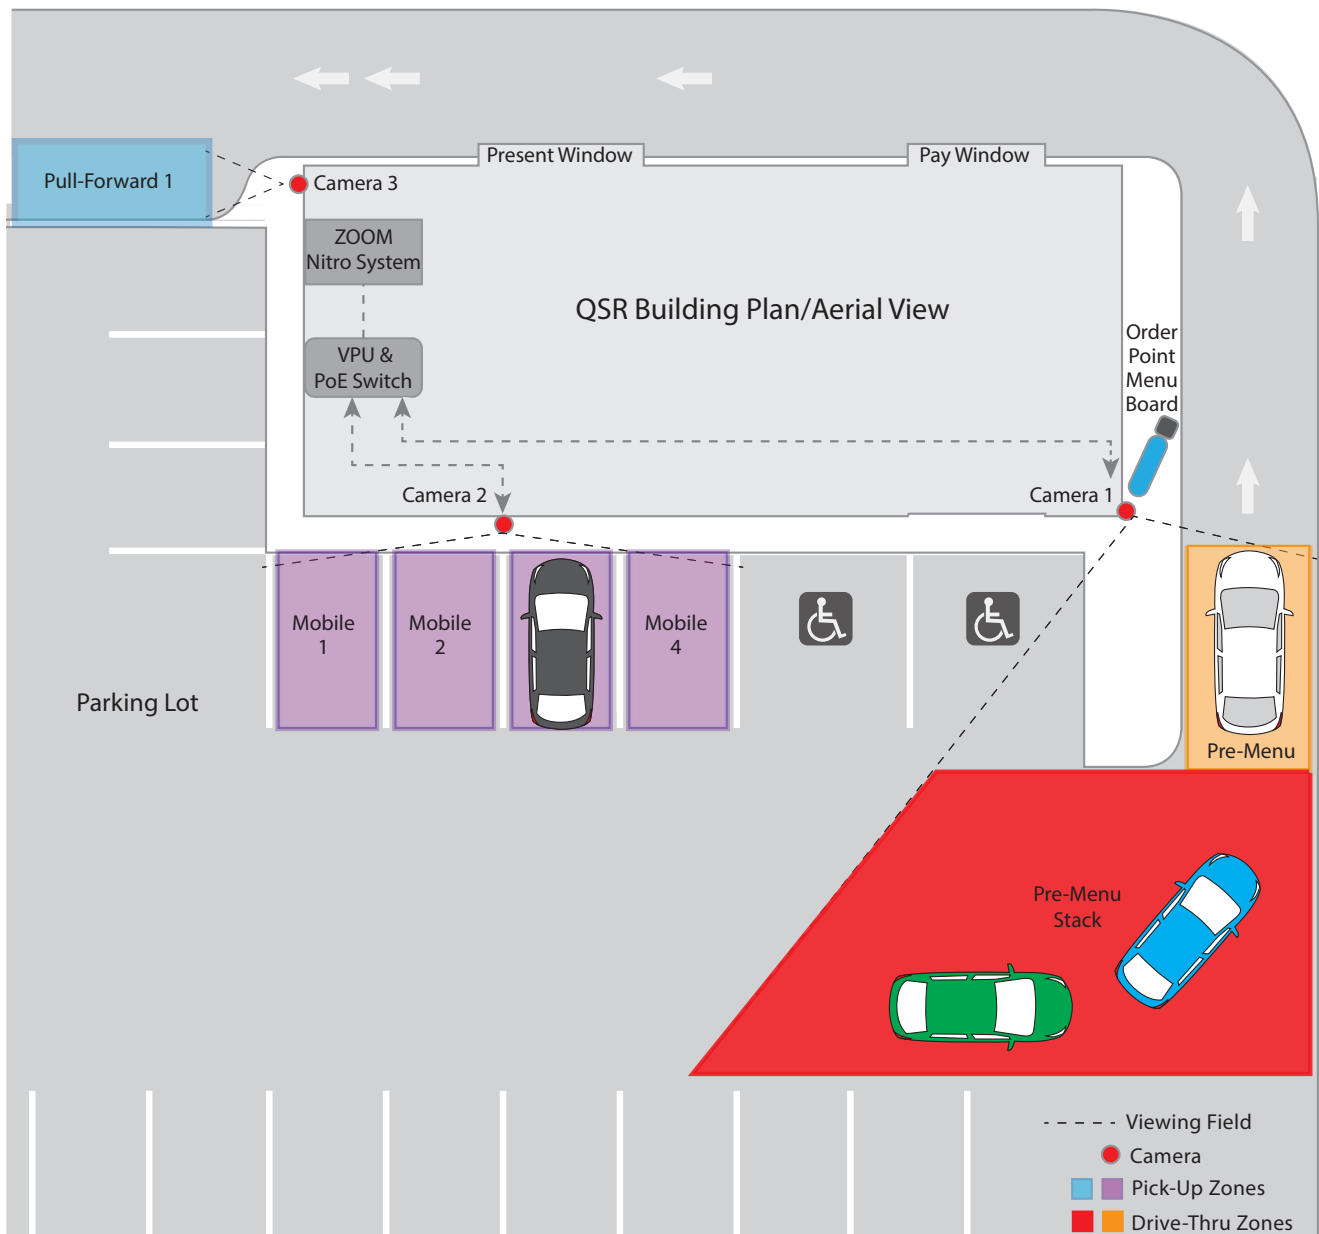

Fig. 1
Cameras are used to detect and track vehicles in a drive-thru or in a mobile space. Fig 1 shows an example of both. Camera 1 tracks cars in the drive-thru, while Camera 2 is used for mobile spaces.
Pre-Menu Stack: (The red area in Fig. 1.) This is an area behind the pre-menu where customers can potentially exit the lane and drive off if they decide not to wait.
Pre-Menu: (The orange area in Fig. 1.) This is the area where a single car next in line is waiting just before reaching the order point.
Captured lanes: These lanes have a physical boundary along the lane, which prevents cars from pulling out of the lane and driving off. These boundaries can be curbs, walls, railings, or hedging. (Fig. 1 has curbs). Captured lanes are also narrow enough so that a car cannot overtake the car in front of it. The only way a car can escape a captured lane is by reversing out of it.
The Blue and Purple areas in Fig. 1. Camera's should be installed to see as many mobile or pull-forward spaces as possible, up to four mobile spaces per camera (eight maximum with two cameras) or up to two full-forward spaces (two maximum) or a combination of both. Cameras should be positioned to view the front or back of these pick-up zones since side views can be problematic due to obstruction issues. For example, a large (tall) vehicle might block the camera's view of a detection zone if the zone is at a distance from the camera with other available parking spaces in between.
- If cars turn as they move first through the Pre-Menu Stack and into the Pre-Menu zone (as in Fig. 1), it is best if the camera is positioned to see cars from the side and from the front.